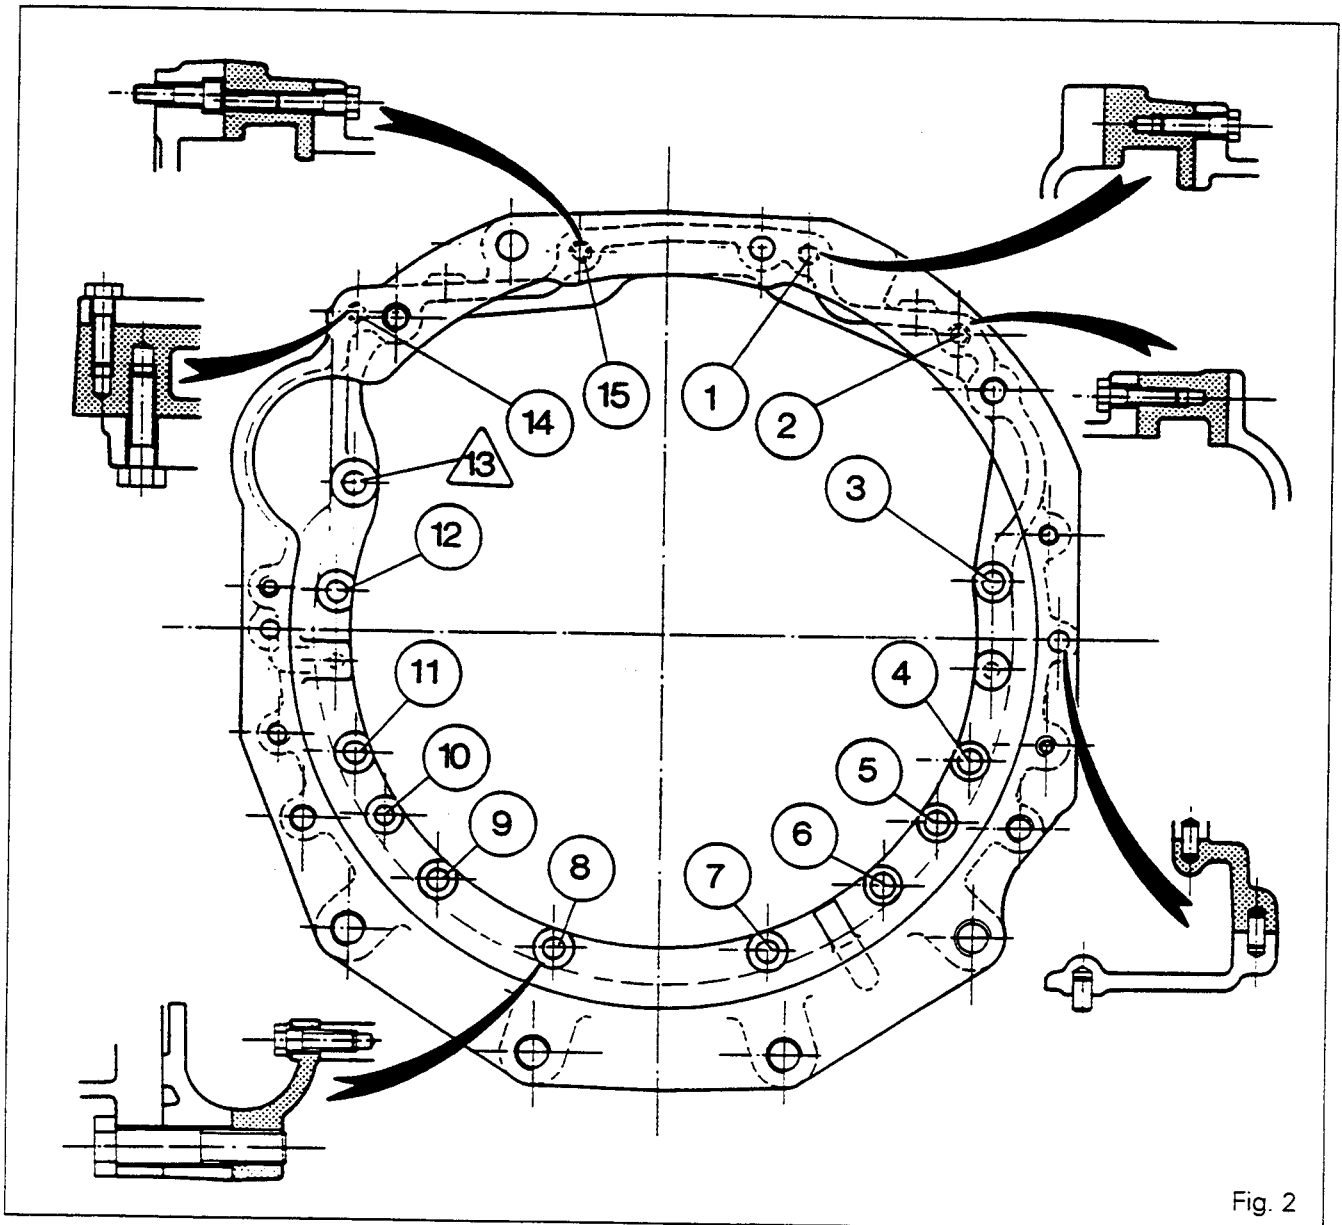

Fig. 2
**Note: The countersunk head bolt /13\ must be correctly positioned (Fig. 2).**